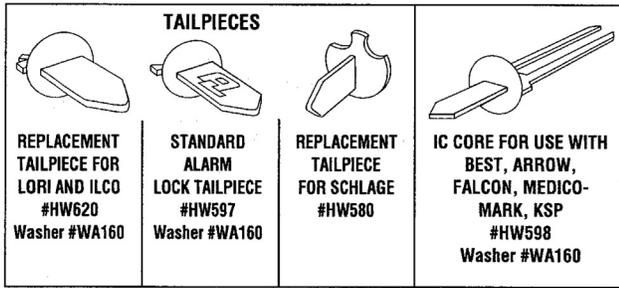
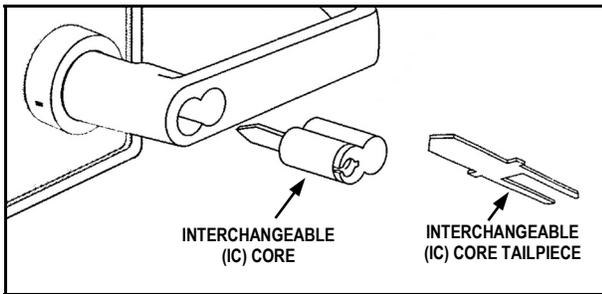

FIG. 19: STANDARD AND IC CORE TAILPIECE VARIETIES
FIG. 20: INSTALL INTERCHANGEABLE (IC) CORE
3. Insert IC core tailpiece (shown in Fig. 19 and Fig. 20) into primary side core. **Note:** Tailpieces are used in primary side cores only. Use ONLY an Alarm Lock® IC core tailpiece.